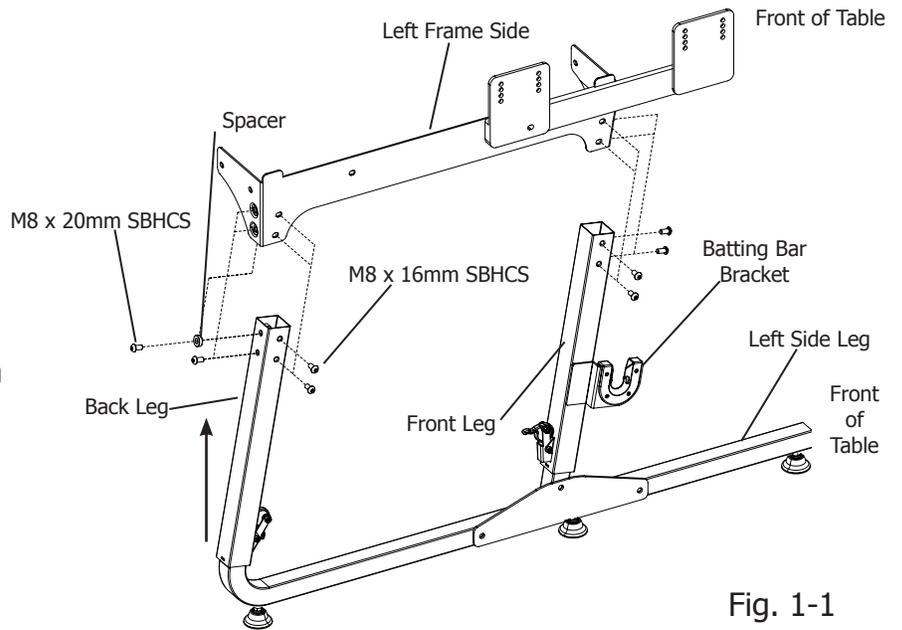

Fig. 1-1
1-1: Screw three (3) leveling feet into the bottom of the left side leg, as shown in Fig. 1-1.